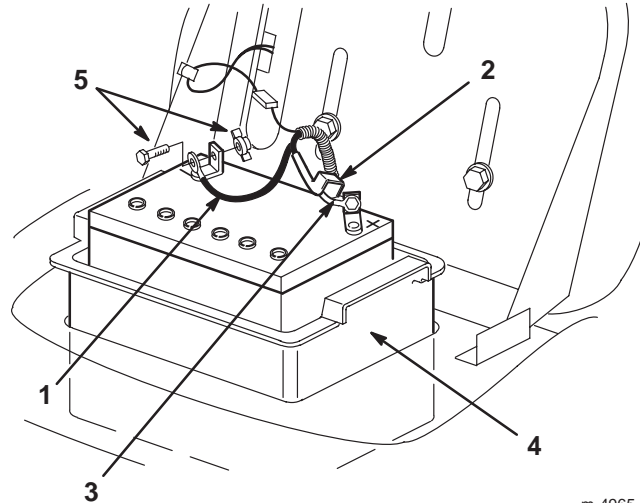

Figure 16
- Disconnect the negative (black) ground cable from the battery post (Fig. 16).
- Disconnect the positive (red) cable from the battery post (Fig. 16).
- Remove the battery box and battery from the chassis (Fig. 16).
1. Put the battery into the battery box and install it into the chassis (Fig. 16).
2. Using the bolt and the wing nut, connect the positive (red) cable to the positive (+) battery post (Fig. 16).
4. Using the bolt and wing nut, connect the negative (black) cable to the negative (-) battery post (Fig. 16).